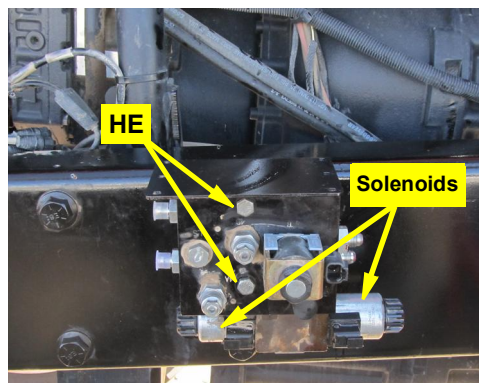
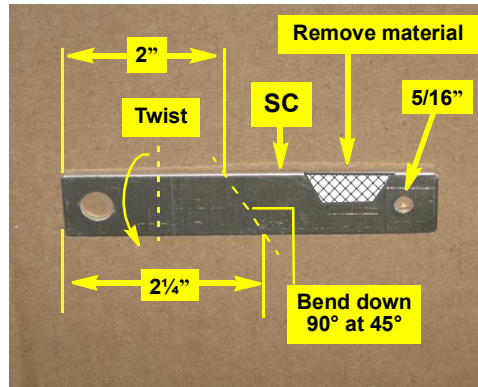

Figure 3: Installed steering block
Figure 2: Prepared switch bracket (not to scale)
Using hardware **HE**, attach hydraulic steering block **HA** to bracket **HD**. Mount **HA** with its solenoids downward (so **P** and **T** ports to the rear - Figure 3).
- Cut a notch from the top side (as viewed in Figure 2) to clear the front left bolt steering column bolt (see Figure 3, top right inset). Check that the notch is big enough to clear the bolt when the bracket is installed (Figure 3, top right inset).